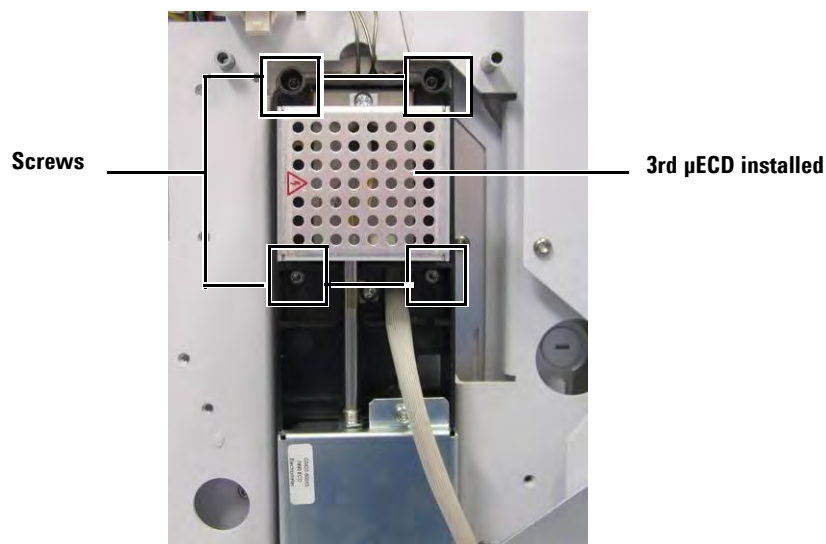

Figure 19 Install the 4 captive screws
- 3 Install the μ ECD module on the side of the GC by tightening the four captive screws using a T20 screw driver and finish tightening the screws with the T20 torque driver. Figure 19.